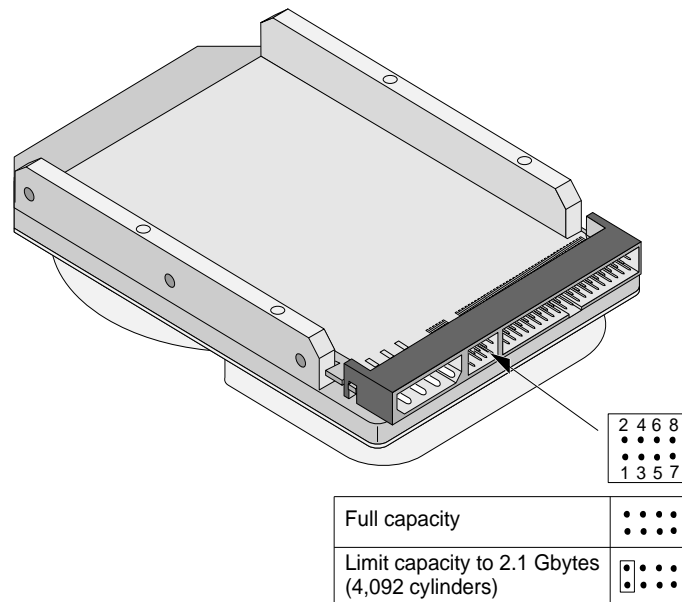

Figure 6. Alternate capacity jumper
2. Move the jumper on the alternate-capacity jumper, as shown in Figure 6. This causes the drive to appear to your BIOS as having a 2.1-Gbyte capacity (4,092 cylinders, 16 heads, 63 sectors per track). You may need third-party partitioning software, such as Disk Manager, to achieve full capacity of the drive.